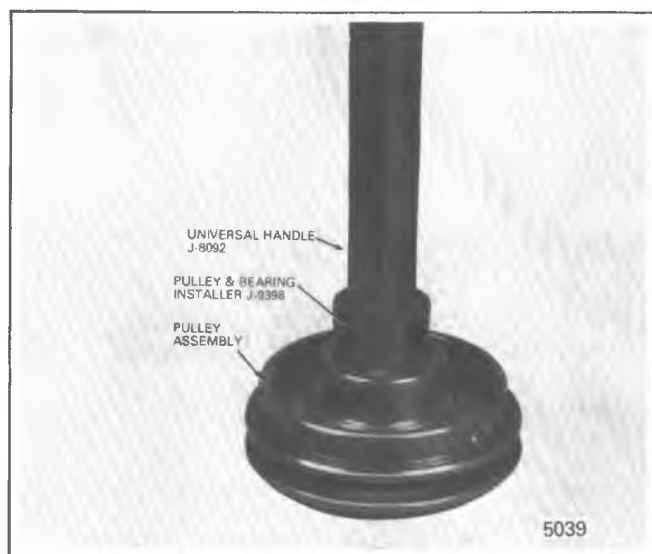

Figure 1D-16 Removing Bearing From A-6 Pulley Assembly
1. Install new bearing in pulley using Pulley and Bearing Installer J-9481 with Universal Handle J-8092 (Figure 1D-17). The Installer will apply the force to the outer race of the bearing.